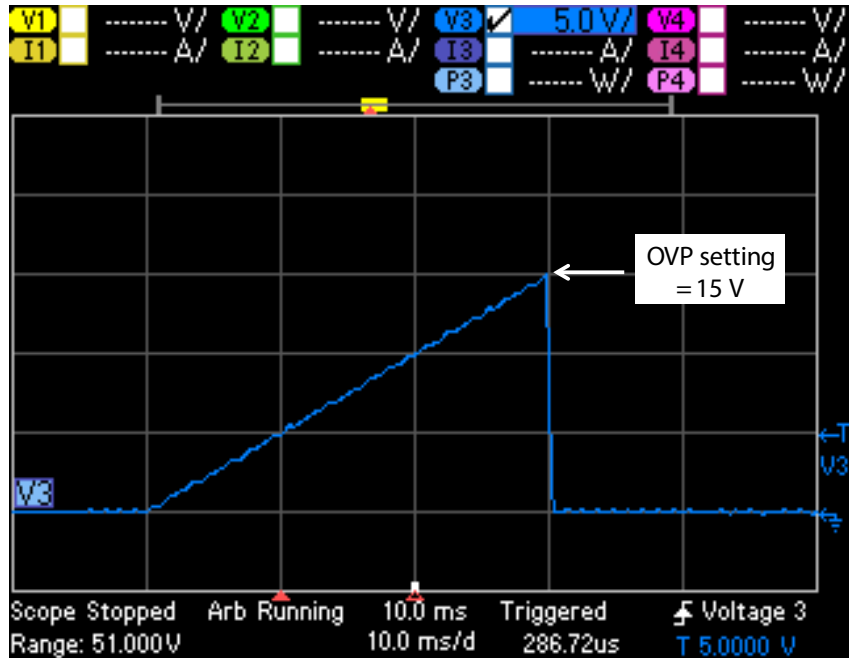

Figure 5. An over-voltage shutdown occurs when the output voltage reaches the 15 V OVP setting, protecting your DUT.
If protecting your DUT is important to you, choose a power supply with built-in protection that prevents excessive voltage and excessive current on the output. Over-voltage protection (OVP) is a feature in many power supplies that protects your DUT against excessive voltage. If the actual output voltage reaches or exceeds the OVP setting, the power supply shuts down its output, protecting the DUT from excessive voltage. Over-current protection (OCP) is a feature that uses the constant current (CC) setting. If the actual output current reaches or exceeds the constant current setting causing the power supply to go into CC mode, the power supply shuts down its output, protecting the DUT from continuous, excessive current. Refer to Figure 5 for an example of an OVP shut down: With the OVP set to 15 V, the output voltage quickly turns off when it